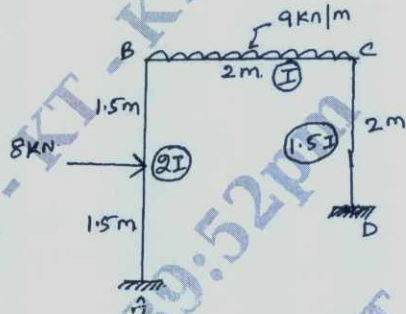

Fig. Q2
- 2 Analyze the portal frame shown in Fig. Q2 by slope deflection method. Draw BMD. (16 Marks)